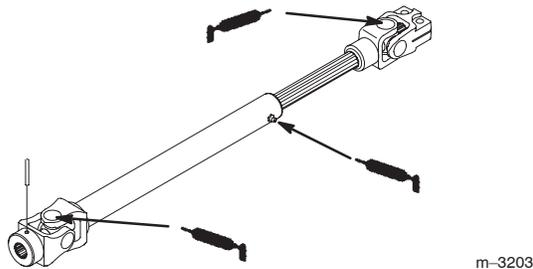

Figure 71
2. Grease the fittings on drive shaft and universal joints (Fig. 71).